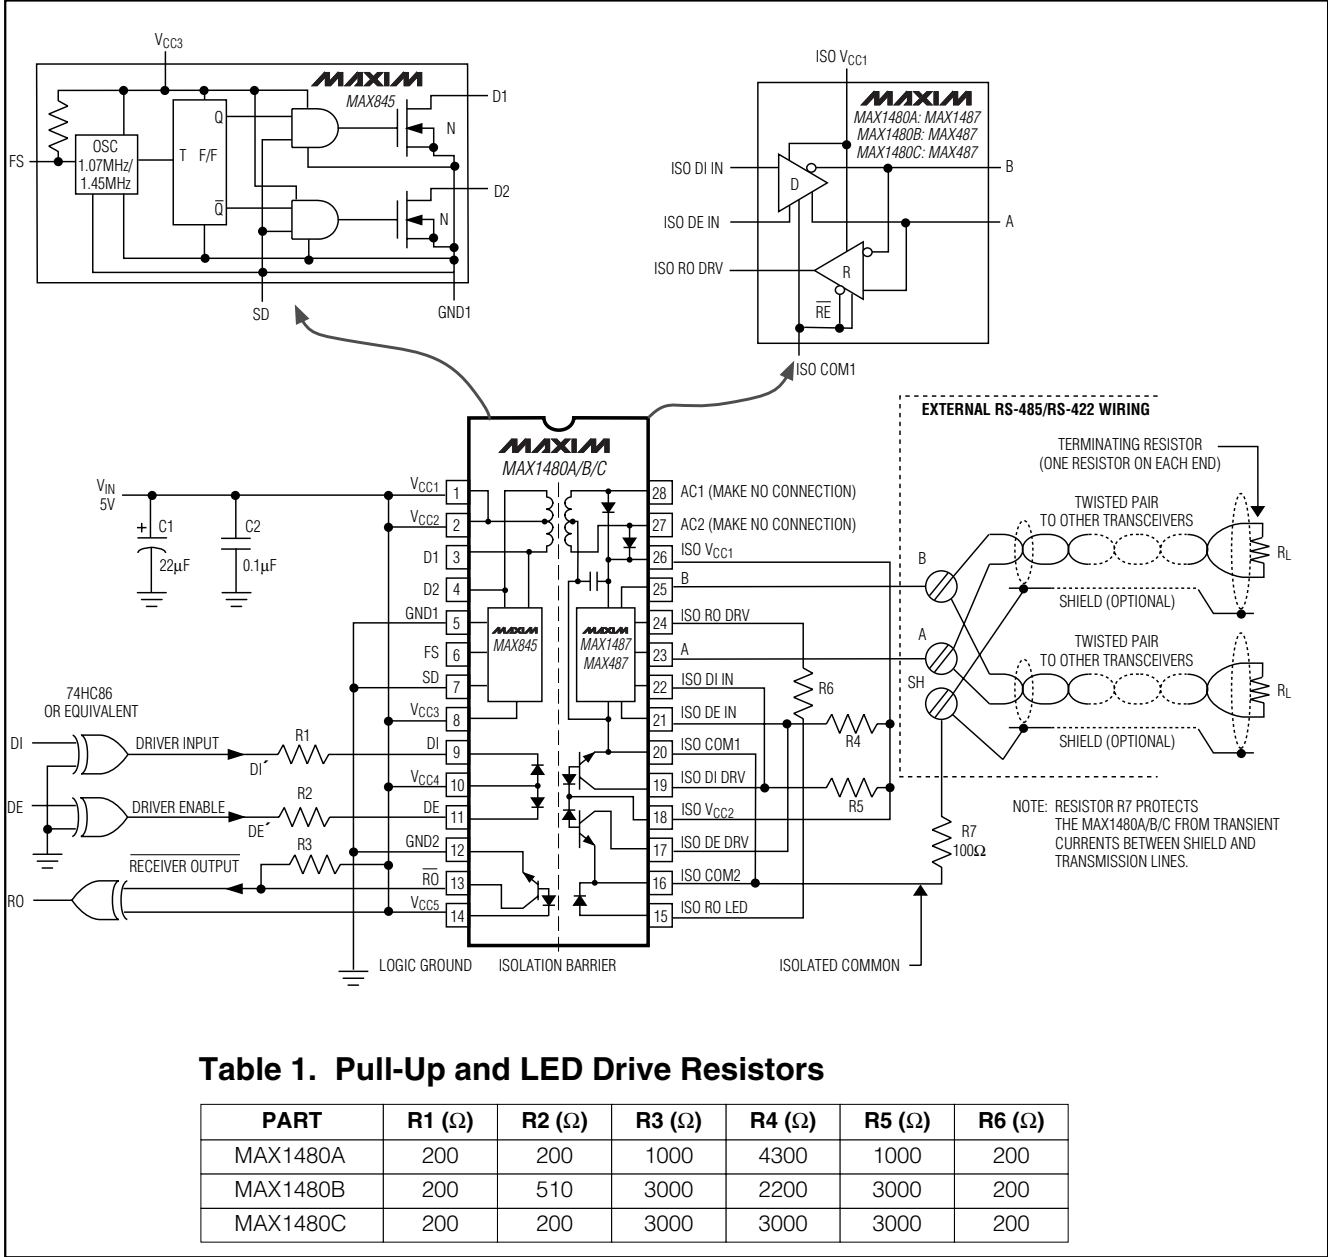
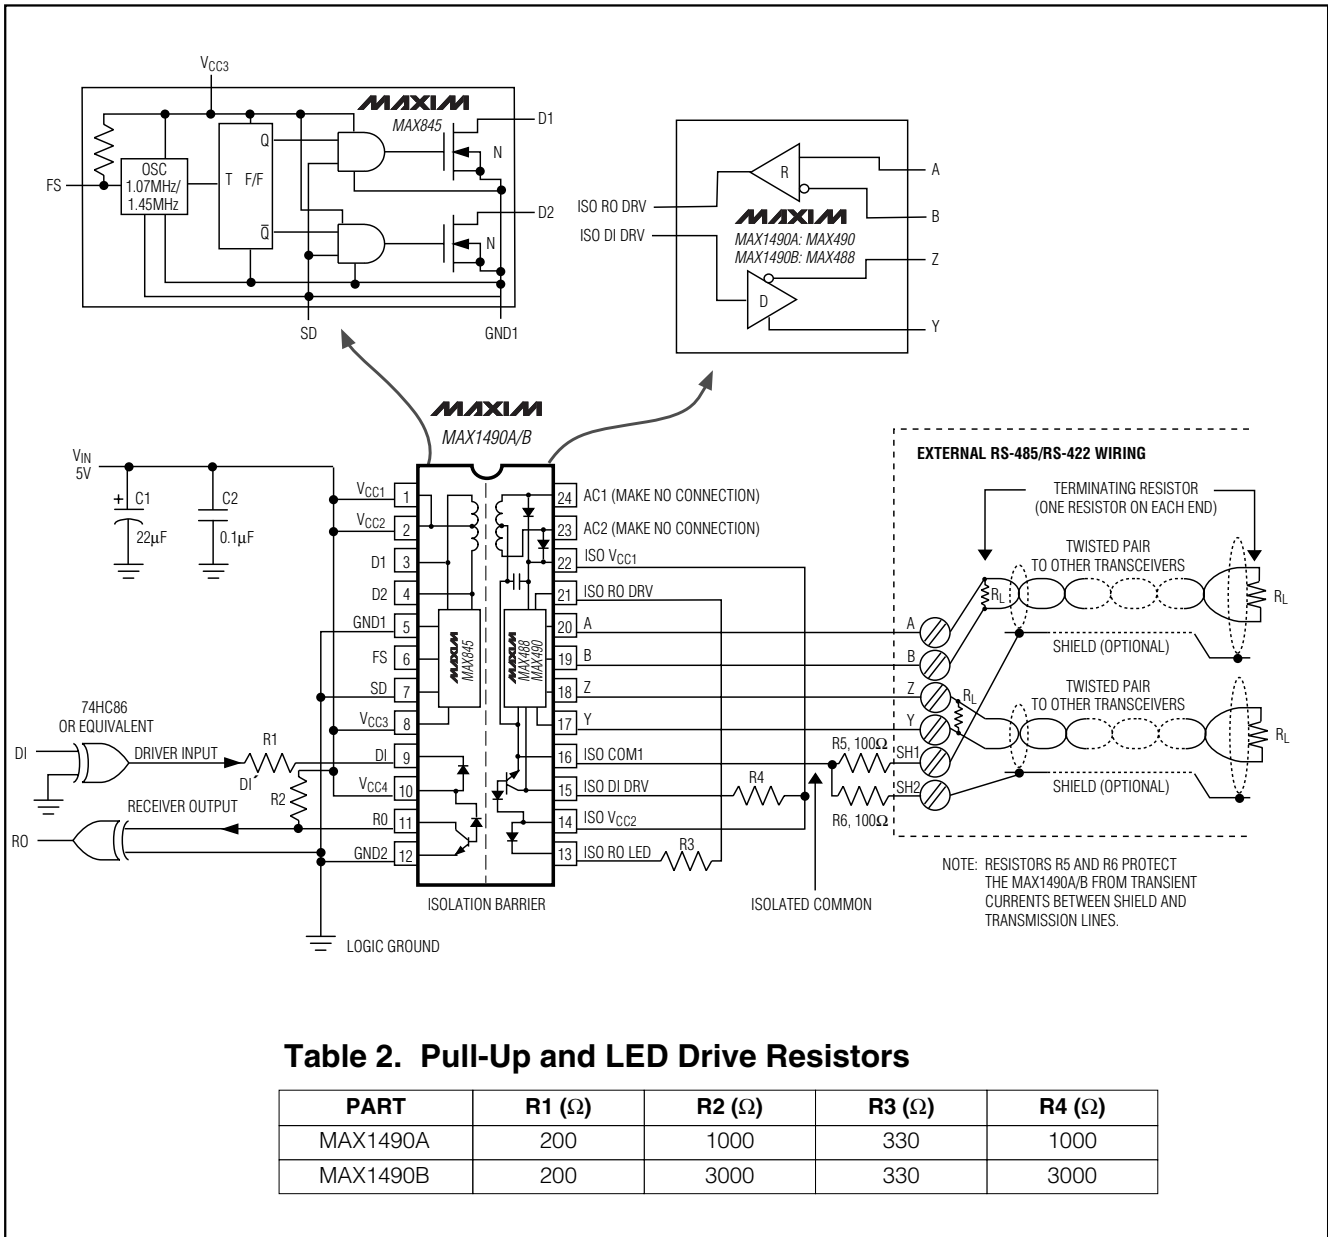

Figure 1. MAX1480A/MAX1480B/MAX1480C Detailed Block Diagram and Typical Application Circuit
Figure 2. MAX1490A/MAX1490B Detailed Block Diagram and Typical Application Circuit
**Note 2:** For DE' and DI' pin descriptions, see *Detailed Block Diagram and Typical Application Circuit* (Figure 1 for MAX1480A/MAX1480B/MAX1480C, Figure 2 for MAX1490A/MAX1490B).
**Note:** For DE+ and DI+ pin descriptions, see *Detailed Block Diagram and Typical Application Circuit* (Figure 1 for MAX1480A/B/C, Figure 2 for MAX1490A/B).
The MAX1480A/MAX1480B/MAX1480C/MAX1490A/MAX1490B are complete, electrically isolated, RS-485/RS-422 data-communications interface solutions. Transceivers, optocouplers, a power driver, and a transformer in one standard 28-pin DIP package (24-pin for the MAX1490A/B) provide a complete interface. Signals and power are internally transported across the isolation barrier (Figures 1, 2). Power is transferred from the logic side (nonisolated side) to the isolated side of the barrier through a center-tapped transformer. Signals cross the barrier through high-speed optocouplers. A single +5V supply on the logic side powers both sides of the interface. The MAX1480A/B/C offer half-duplex communications while the MAX1490A/B feature full-duplex communication. The functional input/output relationships are shown in Tables 3–6.
\* For DĒ and DĪ pin descriptions, see *Detailed Block Diagram and Typical Application Circuit* (Figure 1 for MAX1480A/B/C, Figure 2 for MAX1490A/B).